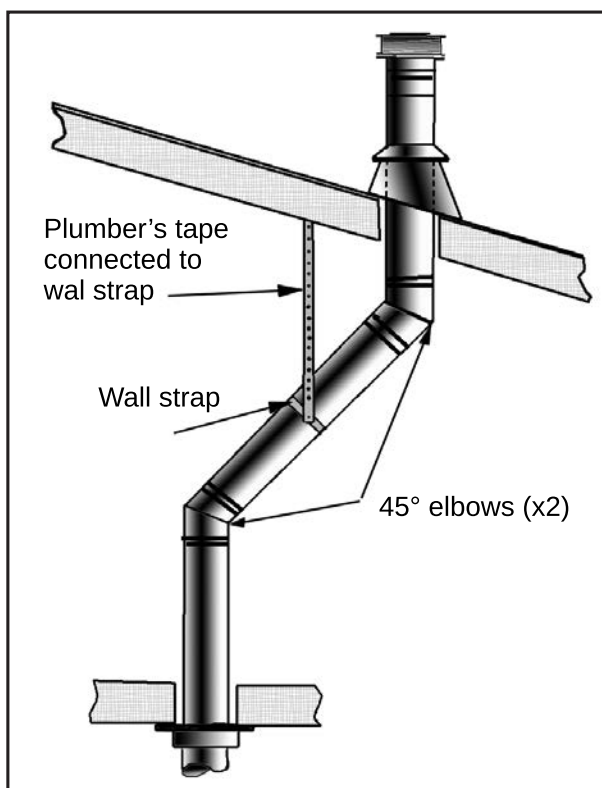
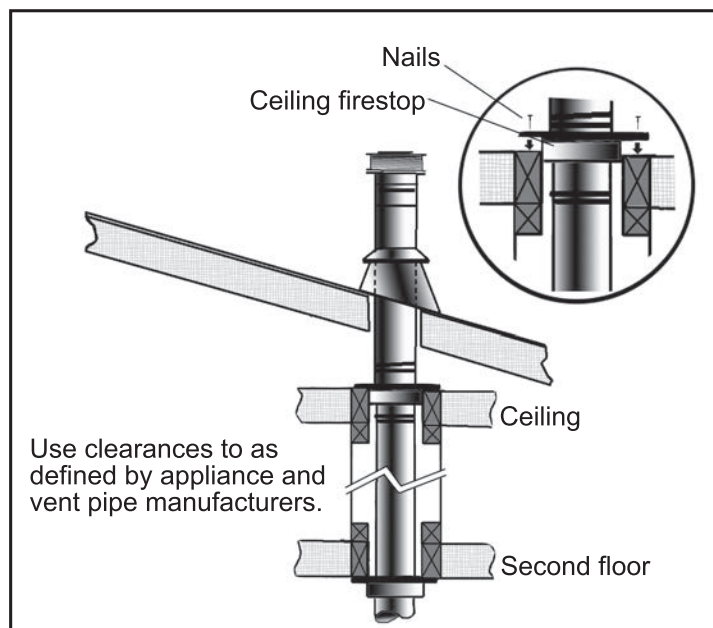

Figure 62: Use of Wall Straps.
Figure 63: Multi-Story Vent Pipe Installation.
- (1) If an offset is necessary in the attic to avoid obstructions, it is important to support the vent pipe every 3 feet (914 mm), to avoid excessive stress on the elbows, and possible separation. Wall straps are available for this purpose (see Figure 62).
- (2) When ever possible, use 45° degree elbows instead of 90° degree elbows. The 45° degree elbow offers less restriction to the flow of flue gases and intake air.
- (3) For multi story installations; a ceiling firestop is required at the second floor, and any subsequent floors (see Figure 63). The opening should be framed to 10" (254 mm) x 10" (254 mm) inside dimensions, in the same manner as shown in Figure 51.